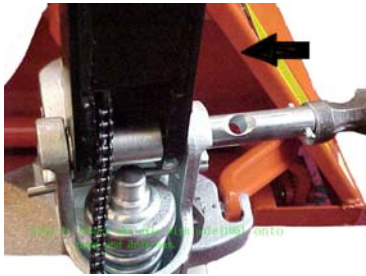

Fig. 2
2.1 Insert the draw-bar onto the pump piston (303), then use a hammer to insert the axle with hole (105) into the hydraulic pump and draw-bar **from the right to left.** (See fig. 2).